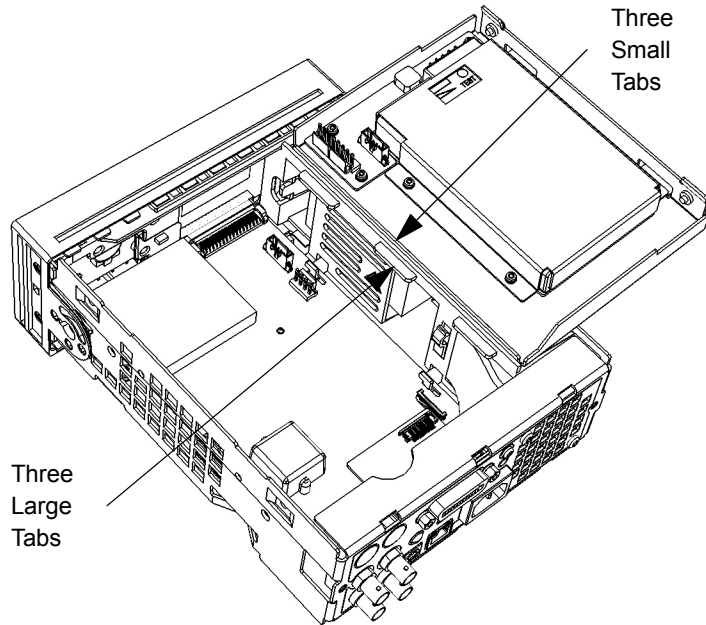

Figure 3-3. Battery Assembly Temporary Position For Service or Removal
- 4 Without disconnecting the battery charging cable, carefully turn the battery assembly over on its back and insert the three smaller tabs behind the large tabs into the three slots in the assembly. (See Figure 3-3.)